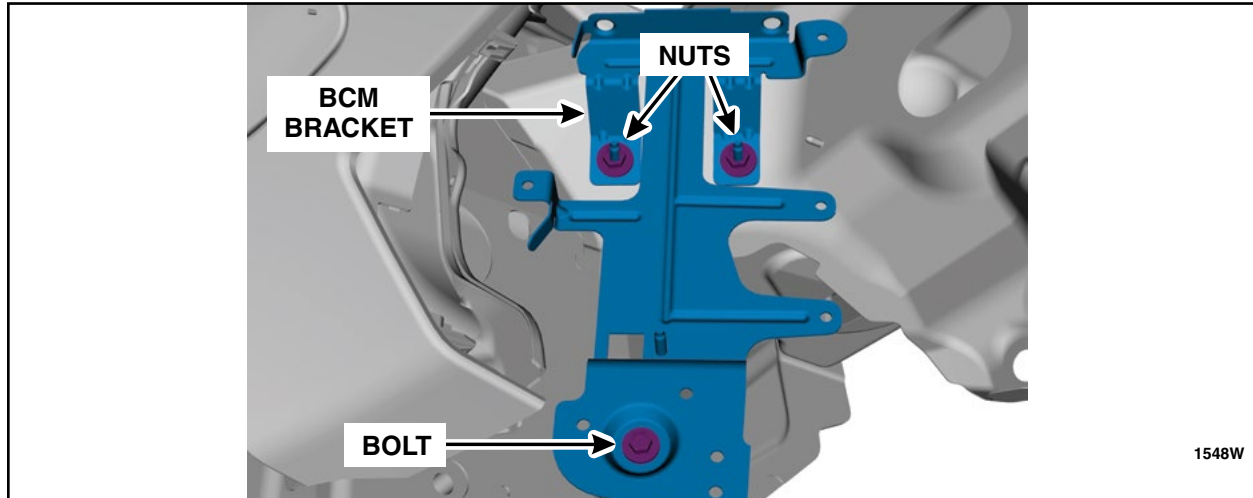

FIGURE 16
24. Remove the BCM bracket. See Figure 16.